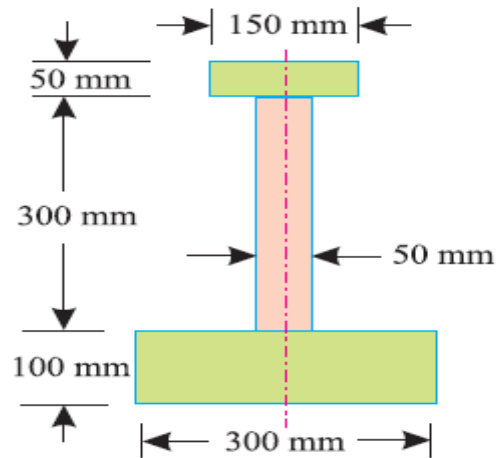

Fig.19
9. An I-section as shown in Fig.19 has the following dimensions in mm units :